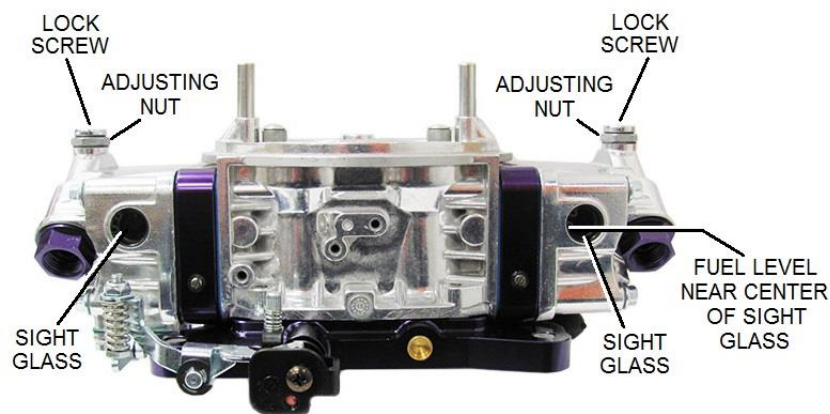

Figure 1
3. The fuel level in the clear sight glass should be mid-level for correct float adjustment. Most likely, this will not need to be adjusted. See **Figure 1**.